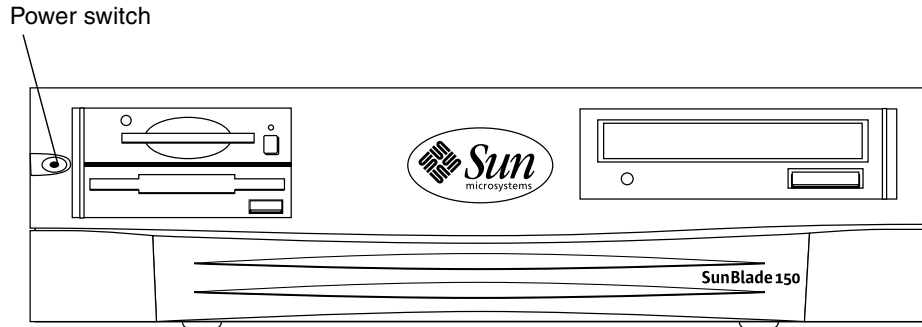

FIGURE 10 System Power Switch
3. Press the front panel power switch (FIGURE 10).